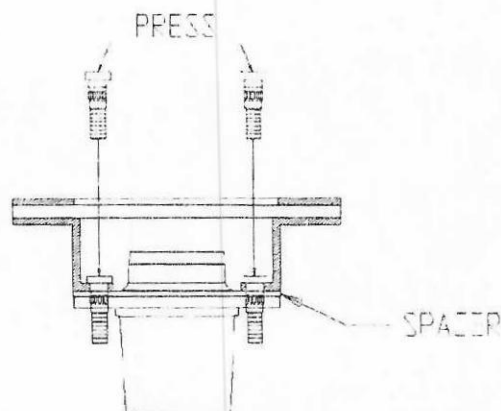

Figure 6. Stud press diagram
1. Place the brake rotor to the wheel hub aligning the holes. See figure 6.